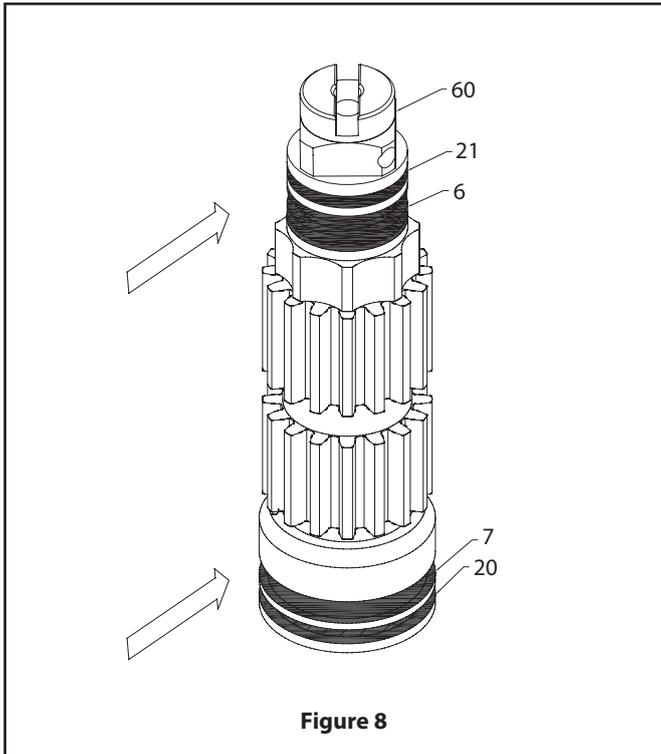
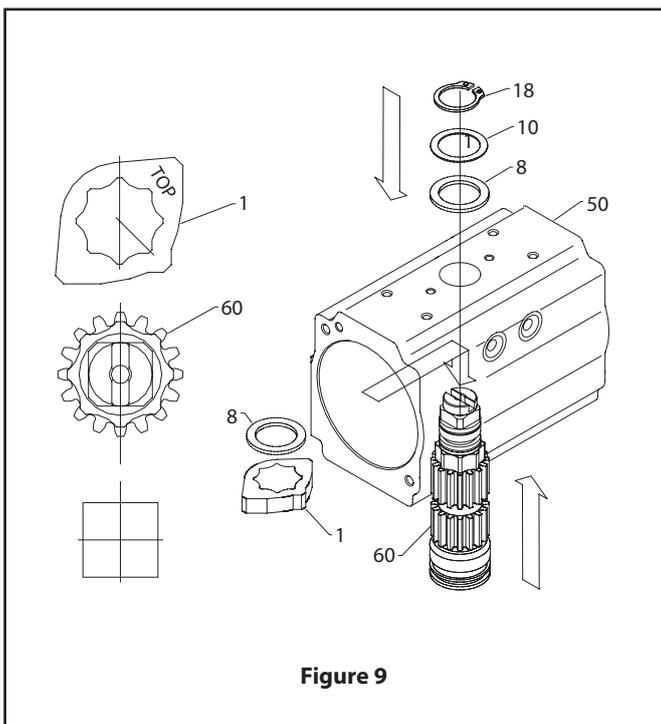

Figure 8
Figure 9
#### 1. Drive Shaft (60) Assembly, (Figures 8 & 9):
- A. Install the top and bottom shaft bearings (6, 7) and o-rings (21, 22) onto the shaft (60).
- C. Partially Insert the shaft (60) into the body (50). Install the octi-cam (1) onto the shaft in the orientation shown in (Figure 9). The edges of the octi-cam (1) should align with the edges of the square in the bottom of the shaft (60). Insert the internal thrust bearing (8) over the octi-cam (1). Fully insert the shaft into the body (50).
- D. Install the external thrust bearing (8), thrust washer (10), and the spring clip (18).
IF THE SERIAL NUMBER OF THE ACTUATOR IS 10136023 OR LOWER THEN THE ACTUATOR MUST BE DISASSEMBLED AND THE OCTI-CAM (1) MUST BE ROTATED, SEE FIGURE 9, BEFORE INSTALLING THE SAFETY LOCKOUT KIT.